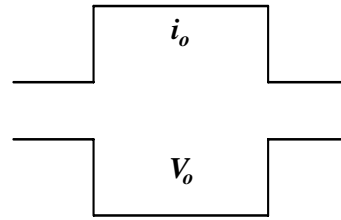
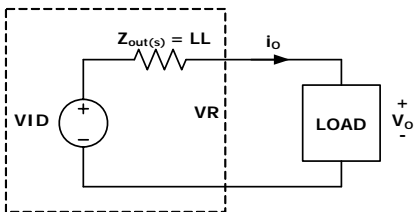

FIGURE 14. DESIRED LOAD TRANSIENT RESPONSE WAVEFORMS
FIGURE 20. VOLTAGE REGULATOR EQUIVALENT
Assuming the compensator design is correct, Figure 14 shows the expected load transient response waveforms if  $C_n$  is correctly selected. When the load current  $I_{core}$  has a square change, the output voltage  $V_{core}$  also has a square response.
Figure 14 shows the desired load transient response waveforms. Figure 20 shows the equivalent circuit of a voltage regulator (VR) with the droop function. A VR is equivalent to a voltage source (=VID) and output impedance  $Z_{out}(s)$ . If  $Z_{out}(s)$  is equal to the load line slope LL, i.e. constant output impedance, in the entire frequency range,  $V_o$  will have square response when  $I_o$  has a square change.